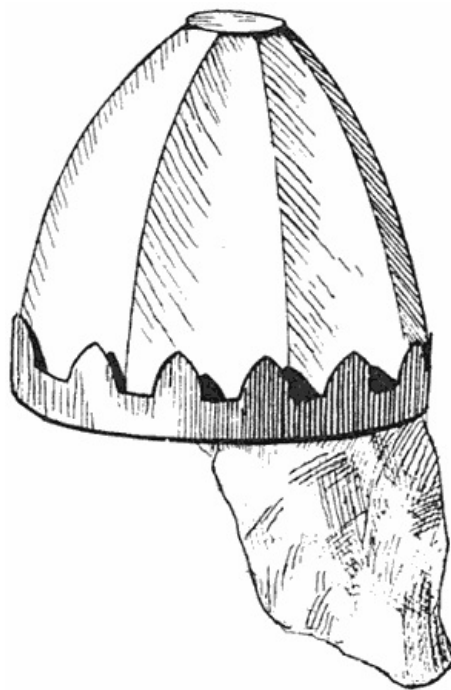

FIG. 10.
*The Helmet.*—With care this is not at all difficult to make: what difficulty there is lies in the adjustment and the size. First it is necessary to find out the distance round the head. This can be done with a piece of string; or, better still, with a linen inch-tape. Suppose the distance round is 21 in.: then the helmet can be made in seven sections, each 3 in. wide at the base. When these are brought together, they converge at the top to form a typical Norman headpiece (Fig. 10).